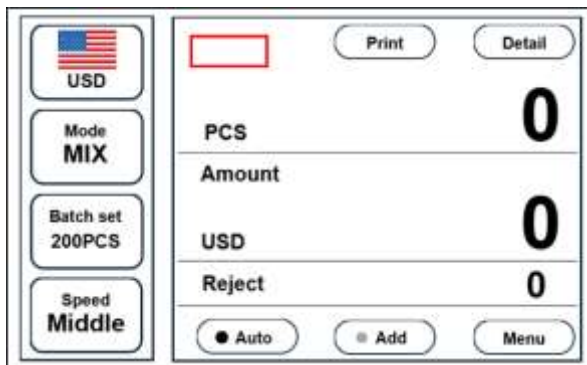

Figure 65
3) When the bottom color of both buttons is gray, it means the face and ort functions are off. Touch the “” key on the upper right corner of the screen to return to the previous interface. As shown in Figure 65, the face/ort information is not displayed in the upper area of the main interface.